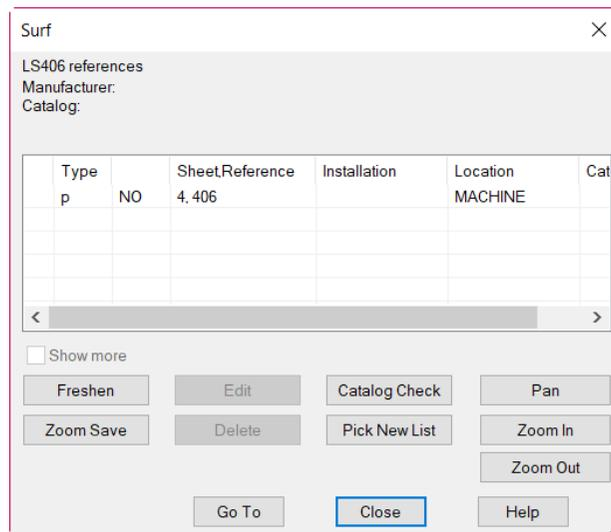

Figure 2-78 The Surf dialog box
- Choose **Surf** from the shortcut menu; the **Surf** dialog box is displayed, as shown in Figure 2-78. Choose **Go To** from the **Surf** dialog box; the *demo004.dwg* file opens with **LS406** zoomed in.